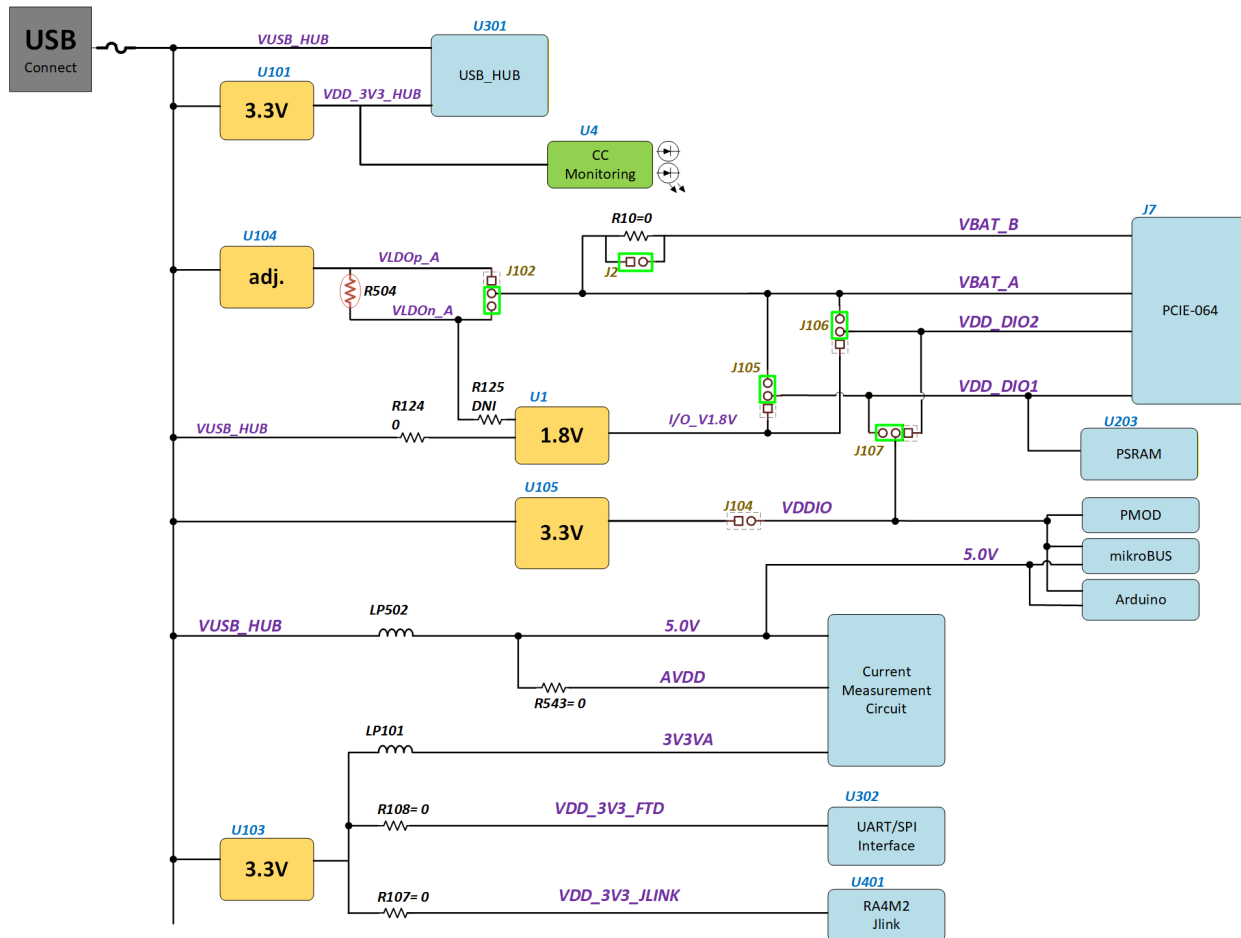

Figure 8. EK-RA6W1 motherboard power tree block diagram
The power tree of the EK-RA6W1 motherboard (Figure 8) consists of several power domains, the VUSB_HUB (= 5 V) power supply, the 3.3 V voltage rail supply for the supporting circuits of motherboard (RA4M2-jlink, USB Hub, FTDI), the main supply for daughterboards (VBAT_A and VBAT_B), the I/O voltage supplies for daughterboards (VDD-DIO1, VDD_DIO2) and the I/O voltage supply for interfaces (PMOD, Arduino, and mikroBUS).
- J102: provides VBAT_A, the main power supply for the Wi-Fi subsystem voltage. VBAT_A is equal to 3.25 V and it is supplied from a 1 Amp DCDC converter (U104), see Figure 8.